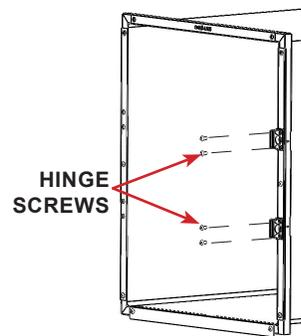

FIGURE 3.8- Hinge Assembly Installation
STEP 7: Install the hinge assemblies to the cage frame, tighten screws to secure the hinges to the frame. See FIGURE 3.8